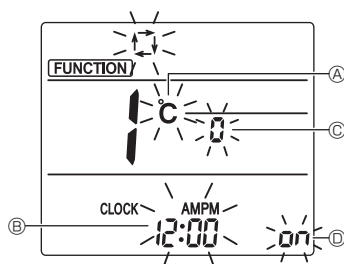

Fig. 6-12
3. Check that function No. "1" is displayed, and the [SET] button ③ press the button ③. The display setting screen will be displayed. (Fig. 6-12)